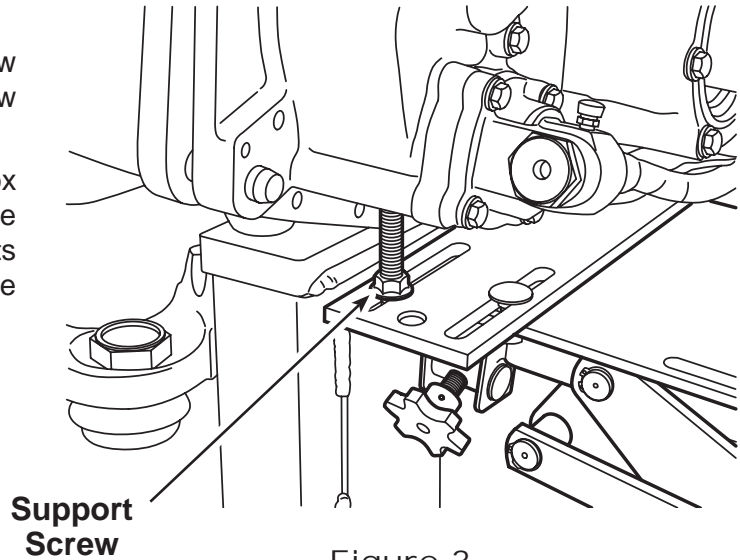

Figure 3
7. Thread the upper flange nut on the support screw to the bottom of the threads until the support screw touches the housing. See Figure 3.